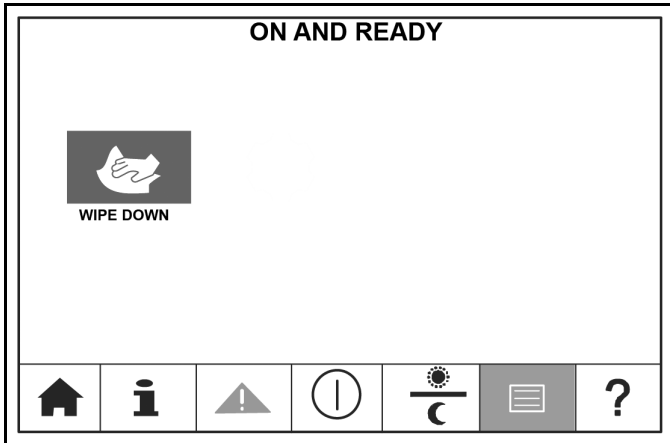

Figure 6-19
1. Press the Wipe Down key to enter the Wipe Down mode. See Figure 6-19